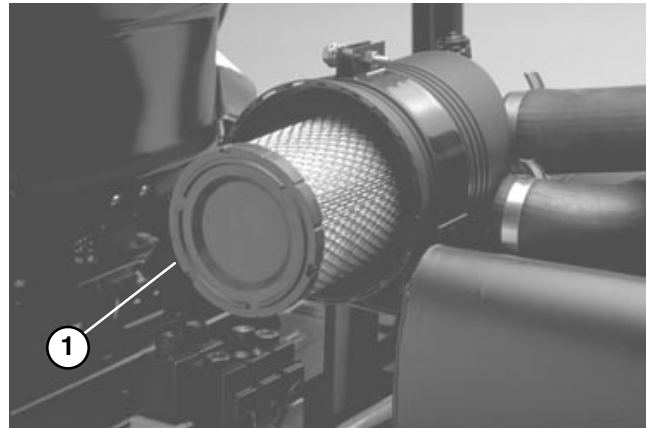

Figure 41
2. Gently slide primary filter (Fig. 41) out of air cleaner body to reduce the amount of dust dislodged. Avoid knocking filter against air cleaner body. **Do not remove safety filter.**